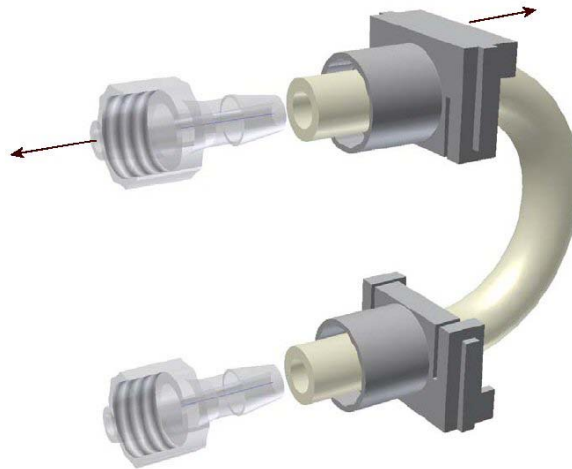

Figure 2-4
- Remove the barbed luer fitting to complete disassembly (figure 2-4).